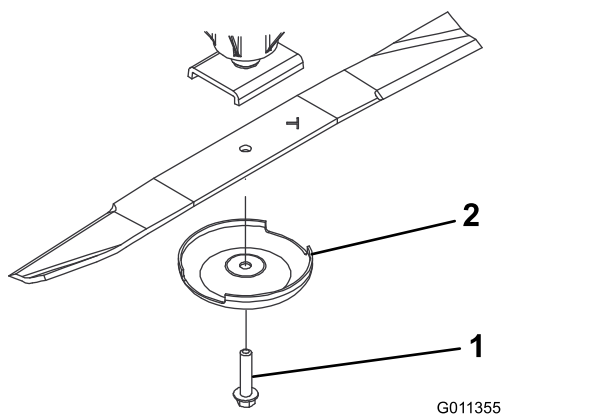

Figure 76
3. Remove the blade bolt, anti-scalp cup, and blade from the spindle shaft (Figure 76).